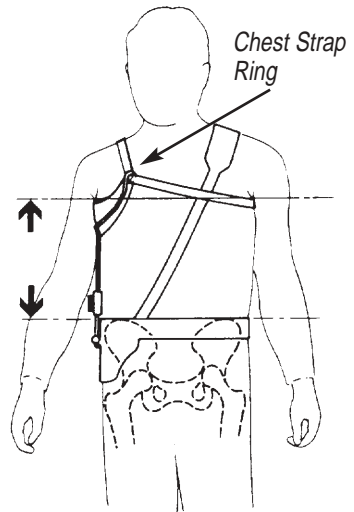

Figure 9
- While supporting the weight of the device, align the top of the Hip Support with the crest of the patient's ilium (Figure 9).
- Refer to Figure 9. Loosen the black Main Locking Knob then slide the Underarm Pad up until it fits comfortably into the patient's underarm area. Tighten the Main Locking Knob.